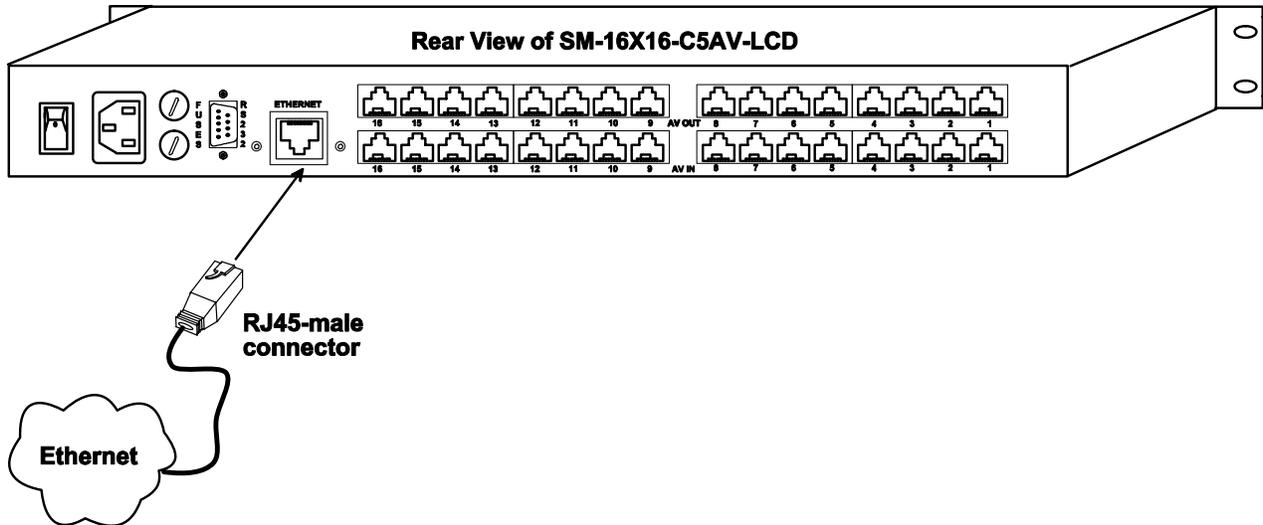

Figure 8- Connect VEEMUX to LAN
6. To use the WEB Interface (page 15) , connect a CAT5 cable between the Local Network and the RJ45 connector on the VEEMUX labeled ETHERNET. (See Fig. 8) This cable should be wired straight through between two RJ45 connectors (pin 1 to pin 1, etc.)